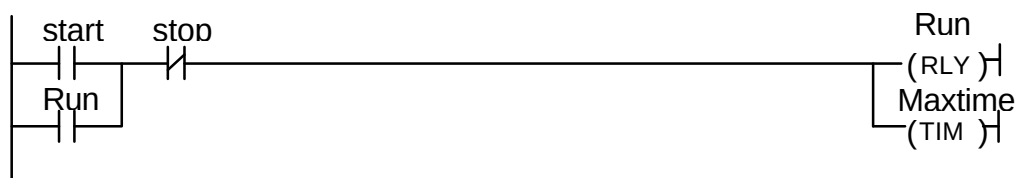

Figure 3.2
13. Notice that the cursor changes to a full cursor which remains at the power line location. The local menu "Circuit" is now replaced by local menu "Ins Element". We are ready to create Circuit #1 as shown in Figure 3.2